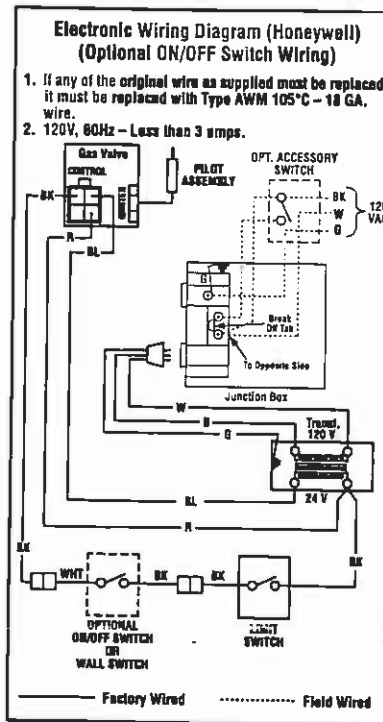

Figure 14
1. Route a 3-wire 120V 60Hz power supply to the appliance junction box and ground. (See *Figures 14 and 16*).
2. Locate and install a low voltage (24V) wall switch (not supplied) in the desired location. Connect the low voltage wire to this switch (see *Figure 14*).
**IMPORTANT:** Ground lead must be connected to the green screw located on the outlet box. See *Figure 14*. Failure to do so will result in a potential safety hazard. The appliance must be electrically grounded in accordance with local codes or, in the absence of local codes, the National Electrical Code, ANSI/NFPA 70-(latest edition). (In Canada, the current CSA C22-1 Canadian Electrical Code.)